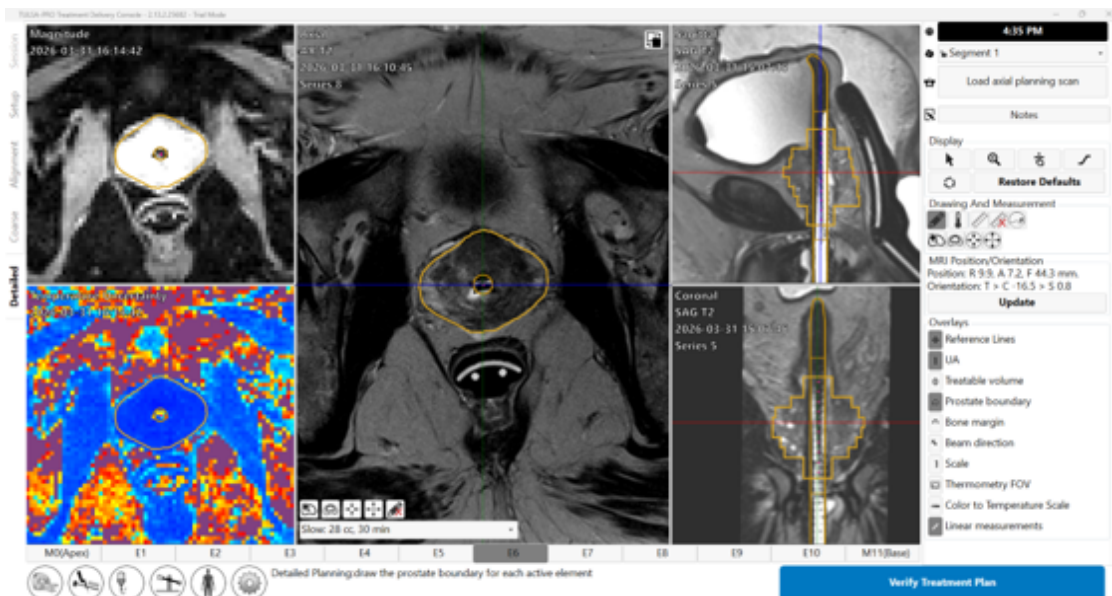

Figure 38: Detailed Planning after drawing boundaries
1. Draw or edit the boundary to outline the tissue to be ablated on each slice based on the corresponding AX T2 and THERM magnitude images (Figure 38). Tools to customize the boundary are described in the following *mpMRI Vision*, *Treatment Arc*, *Volume Reduction*, and *Contouring Assistant*. You can select individual slices by clicking on the numbered tab at the bottom of the screen or by pressing the left and right arrow keys on the keyboard. Use the sagittal and coronal views of the SAG T2 images to verify the intended ablation zone in three dimensions.